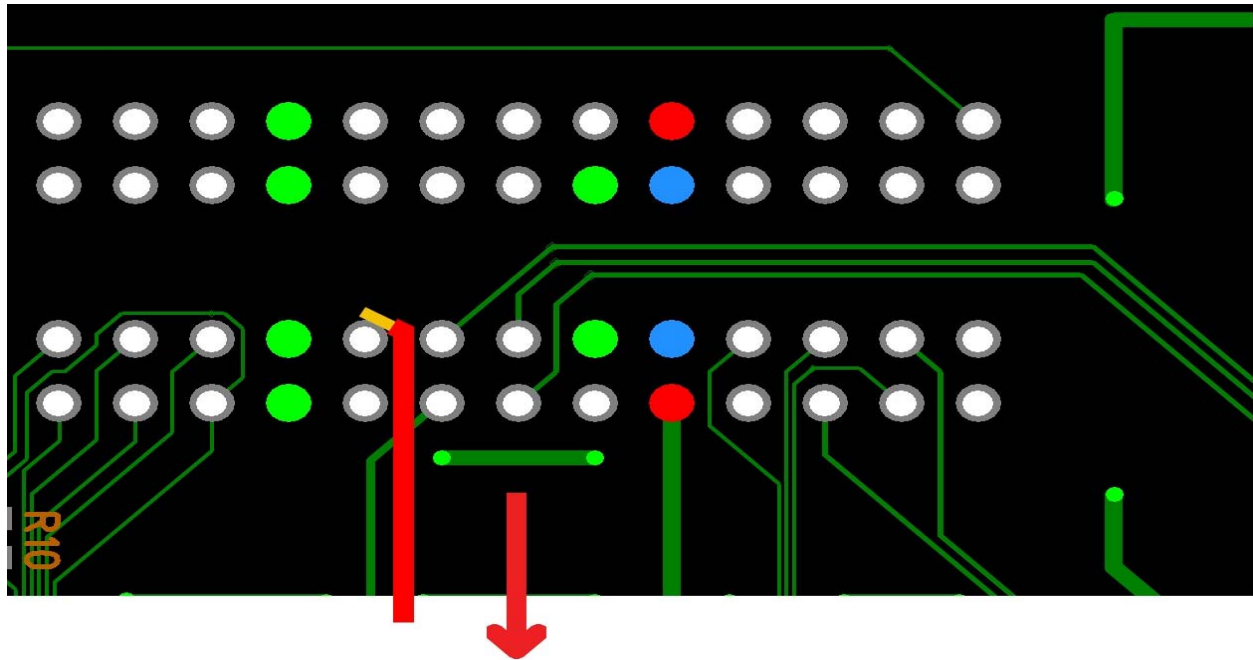
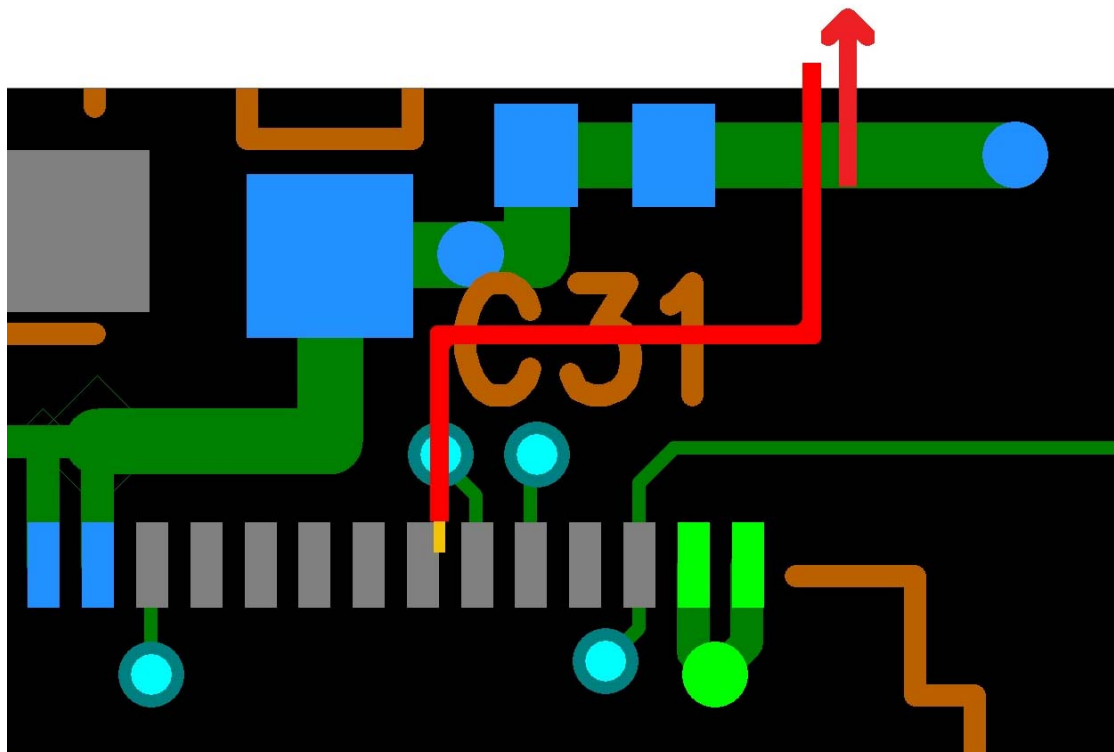

Figure 5 Rework Wire Connection at J4.33
Figure 6 Rework Wire Connection at J10.48
3. Add a 30 AWG Solid rework wire between J4.33 and J10.48. Figure 5 shows a detail of the connection at J4 and Figure 6 illustrates the connection at J10.